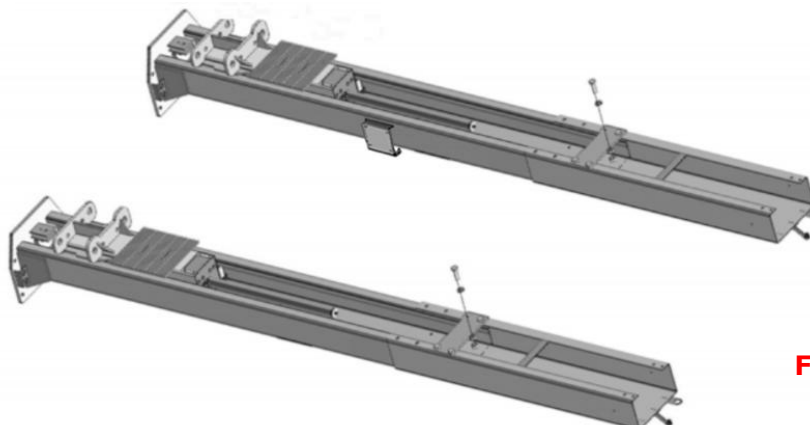

Fig. 20 Low setting
2. Low Setting: connecting the extension columns with the upper hole (See Fig.20).